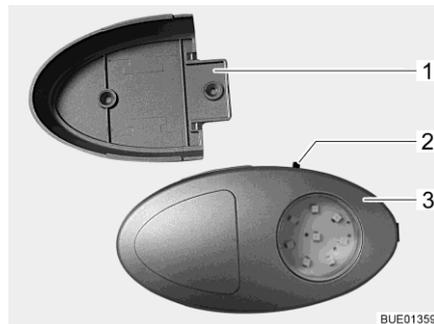

Fig. 73 Wardrobe light/torch
- ▷ The wardrobe light can be removed from its holder (Fig. 73,1) and used as a torch.
The On/Off switch (Fig. 73,2) is located directly on the wardrobe light (Fig. 73,3).